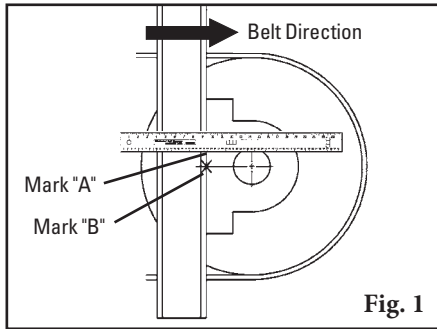

Fig. 1
- 2b. **Put a level on top of the pulley shaft and draw a horizontal line A.** Measure down from Line A half the diameter of the pulley shaft and draw Line B parallel from the pulley shaft (Fig. 1).
- 2b. **Put a level on top of the pulley shaft and mark A at the structure.** Measure down from Mark A half the diameter of the pulley shaft and mark B, locating the shaft centerline (Fig. 1).
- 8a. **Install the Tensioning System.** With the pole rotated up so that all the tips contact the head pulley, slide a collar on each end of the pole. Position the collars tight against the bearing mounts and tighten the lock bolt and jam nut on each collar (Fig. 1).
1. **Remove tension.** Turn adjusting bolt down until a 1/8" (3mm) gap is gained at the tightest point between the tip and the belt (Fig. 1).